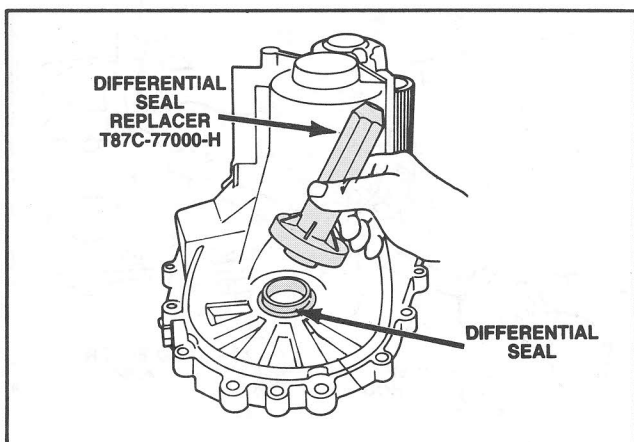

Figure 57 Differential Seal Installation
- Differential Seal (Figure 57).